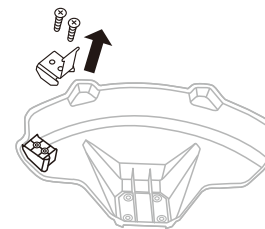

Fig.6A
2. Remove both screws on the cut-off blade with a hex wrench. (Fig.6A)
3. Rotate the cut-off blade 180°. (Fig.6A)